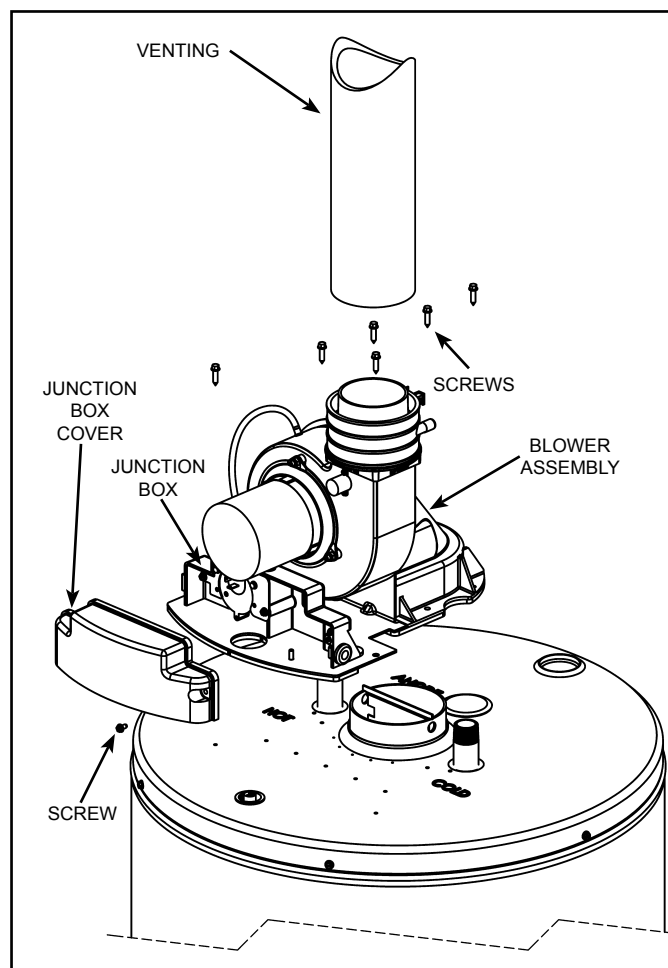

Figure 28
4. Use a 5/16" nutdriver to loosen the screw on the upper gear clamp of the rubber coupling adaptor connecting the venting to the blower. Slowly pull the vent from the adaptor (see Figure 28).
5. Use a 1/4" nutdriver or 1/4" socket & ratchet to loosen the screw on the junction box. Remove and retain the screw and junction box cover. Disconnect the power and ground connectors (see Figure 28).
6. Use a 1/4" nutdriver or 1/4" socket & ratchet to loosen, remove and retain the 6 hex head screws so the blower assembly can be removed. Remove the blower while carefully passing the power and ground connectors through the junction box opening (see Figure 28).
3. Align the screw holes on the blower assembly with those on the top of the heater. Using the six screws removed in step 6 above, install the blower assembly and tighten with 1/4" nutdriver or 1/4" socket & ratchet (see Figure 28).
Note: This power vent heater will accept a 2" or 3" rubber outlet coupling, depending on the size of the water heater. This coupling, mounted in the vertical position, accepts the vent piping and is attached as shown in Figure 28. Refer to the Manual to determine vent pipe sizing for your application. The blower assembly may be rotated 90 degrees clockwise or counter-clockwise to allow horizontal venting in areas having restricted space above the water heater (see "Rotating the Blower" section).
This power vent heater can accept 2" or 3" rubber outlet coupling, depending on the capacity of the water heater. This coupling, mounted in the vertical position, accepts the vent piping and is attached as shown in Figure 28.